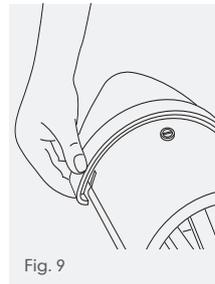

Fig. 9
- 18 Locate block end hip tile and bracket assembly on to top of circular beads of dry hip batten section, and fix end of bracket to hip rafter using two 75mm x 10g stainless steel drive screws (Fig. 9).